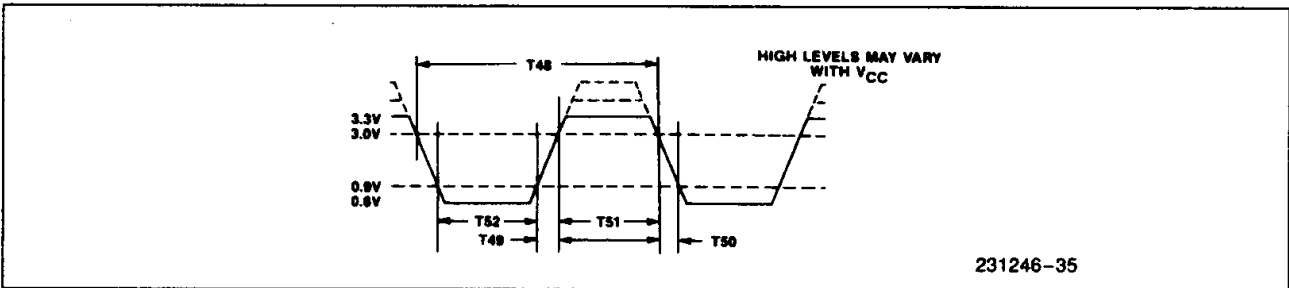

Figure 34. \overline{TxC} Input Voltage Levels for Timing Measurements
14. 82C501 compatible levels, see Figure 34